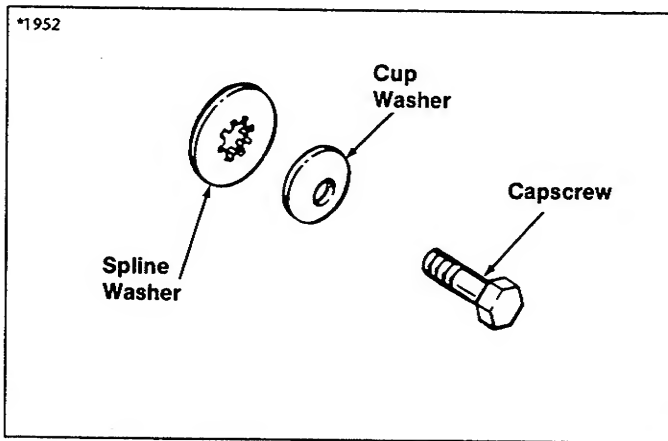

Figure 23. Blade Hardware
1. Reinstall the blade(s) with the tabs pointing upward. Install the spline washer, cup washer, and capscrew (see figure 23). Be sure the splines on the spline washer are engaged with the shaft splines. Be sure cup washer is installed with the concave side up.